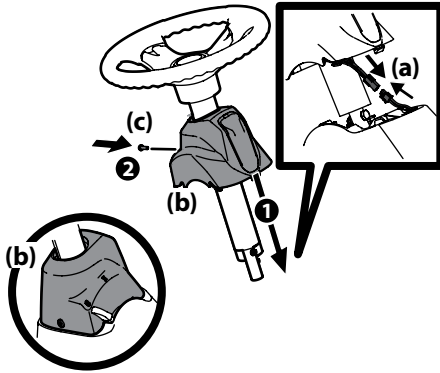

Figure 2-3
- Remove the pedestal cap mount screw factory installed and located on the rider's steering console. Retain the screw for later instructions. See Figure 2-3
- Connect the headlight wire terminals (a). Slide the pedestal cap (b) down onto the rider and slightly rotate to the right to clip into place. Secure the pedestal cap (b) with the screw (c) previously removed. See Figure 2-3.